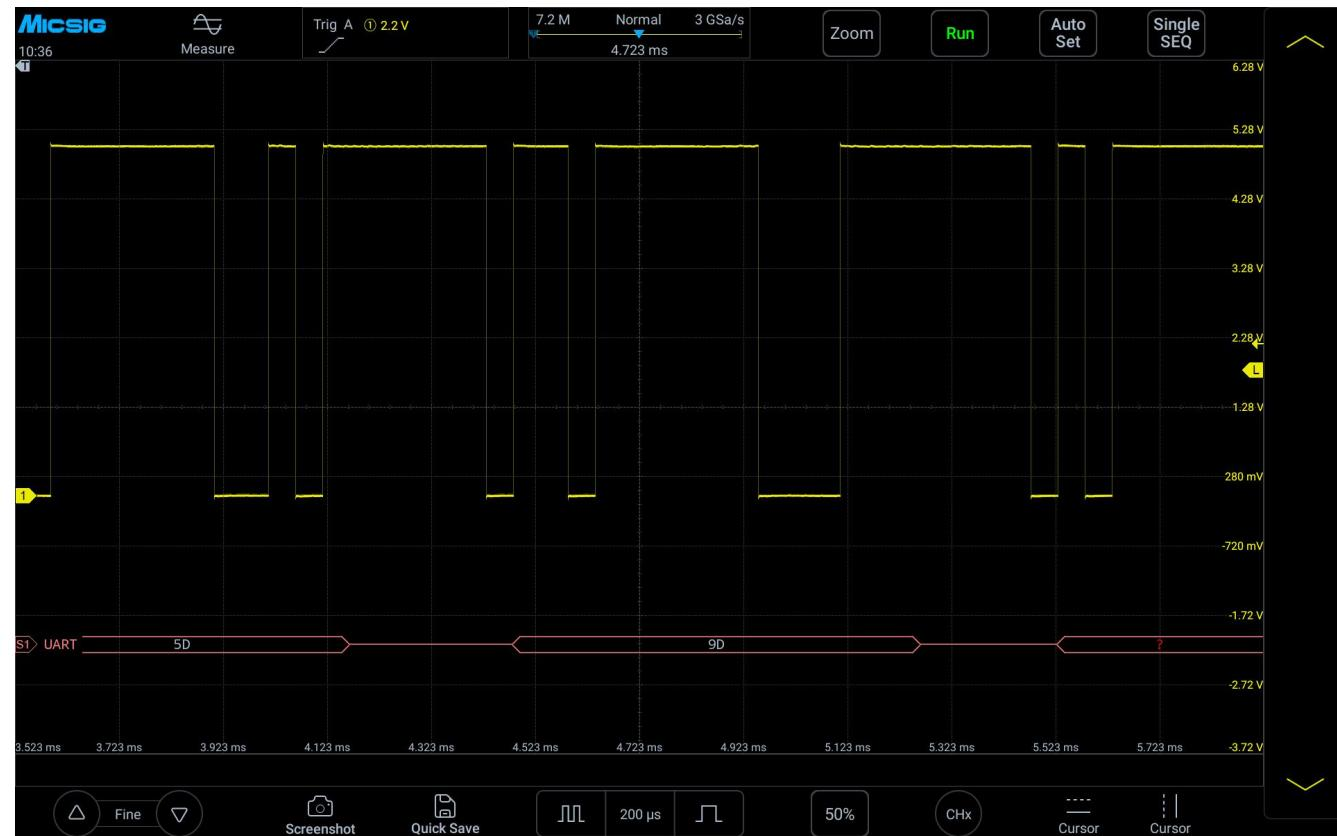

Figure 11-7 UART Decode Level Adjustment
- (1) Tap S1 to open the decode channel, and click S1 again to open the bus configuration menu;
- (2) Select the bus type as “UART”, click “Ch1”, “Idle High”, “Parity None”, “8bit”, “19.20kb/s”, display “hexadecimal”, then close menu;
- (3) Open the trigger mode setting menu, click “Data”, enter 55 manually, and press “enter” to confirm;
- (4) Adjusting the threshold level according to the amplitude level of signal may make the signal to be stably triggered. The UART trigger graphic interface is shown in Figure 11-7: